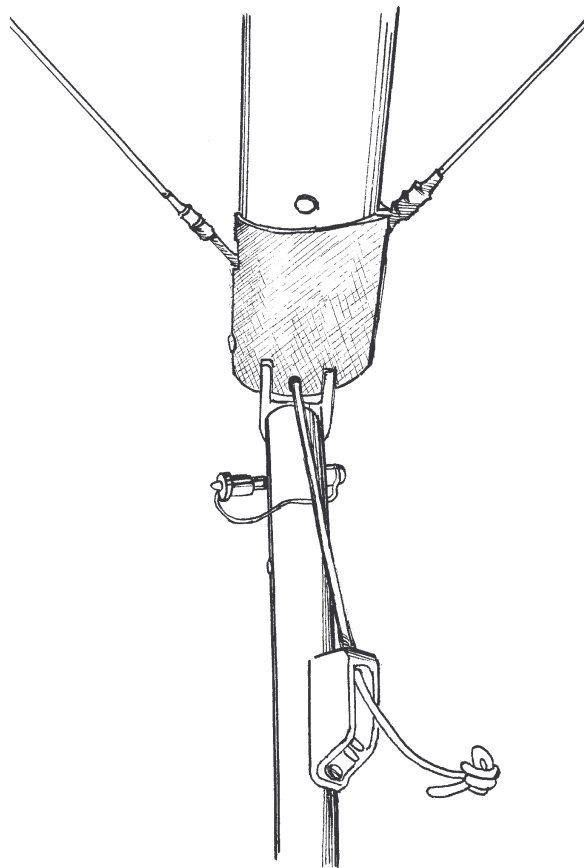

Fig. 3
2.2.1. Remove the speedbar from the bag, spread the uprights. Install the speedbar so that off-set of the speedbar is directed forward in the direction of flight. Attach the speedbar using the quick-pins. Pass the VG-rope through the cleat, make a knot on the end of the rope (Fig. 3).